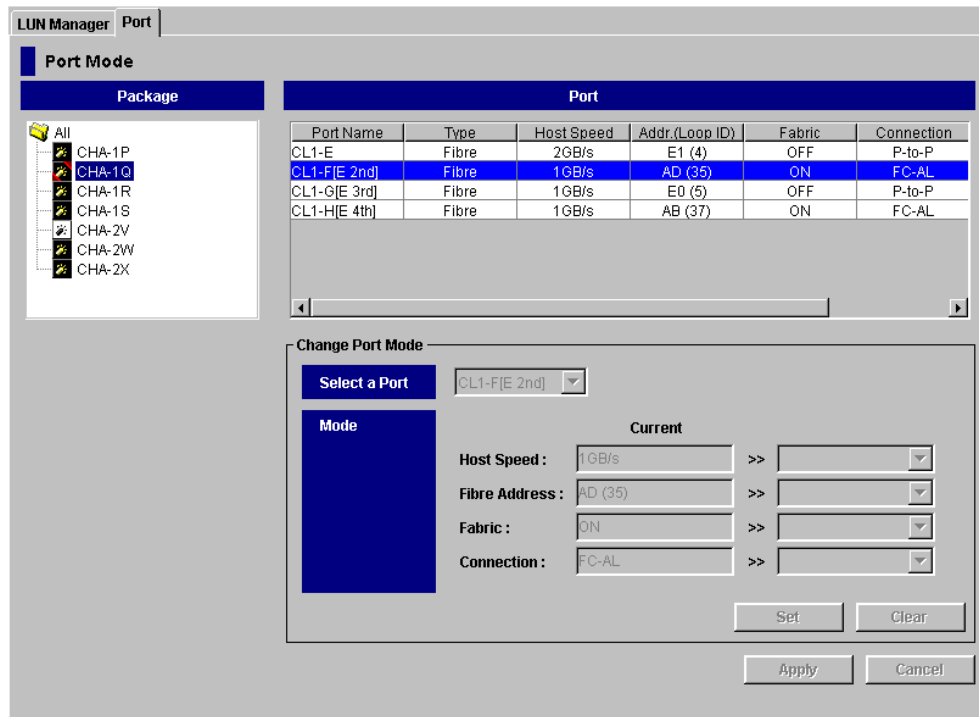

Figure 2.2 Port Mode Panel (Port Tab)
**Fibre topology.** Figure 2.2 shows the Port Mode Panel, which shows the port name, port type, host speed, port address (Loop ID), fabric switch (on or off) and topology (type of connection). Table 2.1 explains the fibre-parameter settings on this panel. You will select the appropriate settings for each 9900V fibre-channel port based on the device to which the port is connected. Determine the topology parameters supported by the device, and set your topology accordingly. The type of 9900V port is also important. **Note:** If you plan to connect different types of servers to the 9900V via the same fabric switch, you must use the **zoning** function of the fabric switch.
Use the LUN Manager software to define the topology parameters (see Figure 2.2 and Table 2.1) and port ID (see Table 2.2) for each 9900V FC port. For detailed instructions, please refer to the LUN Manager chapter of the *Hitachi Lightning 9900™ V Series LUN Manager/SANTinel User's Guide* (MK-92RD105). When you are done configuring the FC ports, you can exit the LUN Manager software.